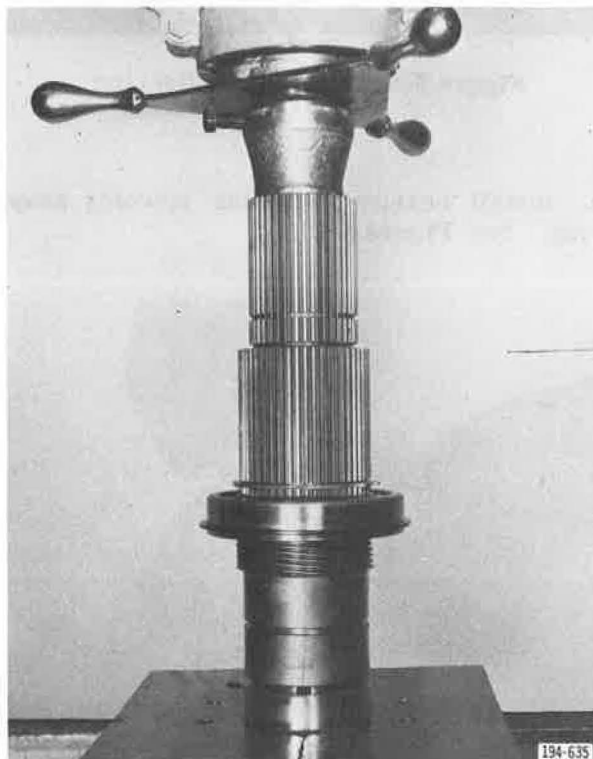

Figure 5-906. Pressing Race onto Mainshaft
3. Press rear bearing cover bearing inner race onto rear mainshaft. See Figure 5-906.